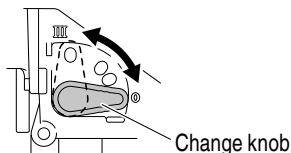

Fig. 13
- (1) This Jig Saw employs orbital operation which moves the blade back and forth, as well as up and down. Set the change knob shown in Fig. 13 to "0" to eliminate the orbital operation (the blade moves only up and down). The orbital operation can be selected in 4 steps from "0" to "III".